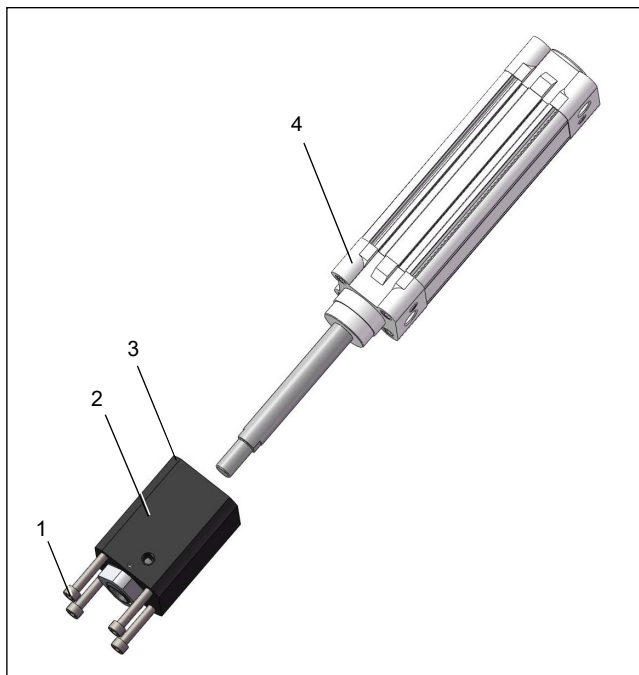

Fig. 3: Application example for mounting on standard cylinder
The Locking Unit KFPA, type Z is to be mounted with the mounting side (3), Fig. 3: to the cylinder head (4), Fig. 3: using the mounting screws (1).